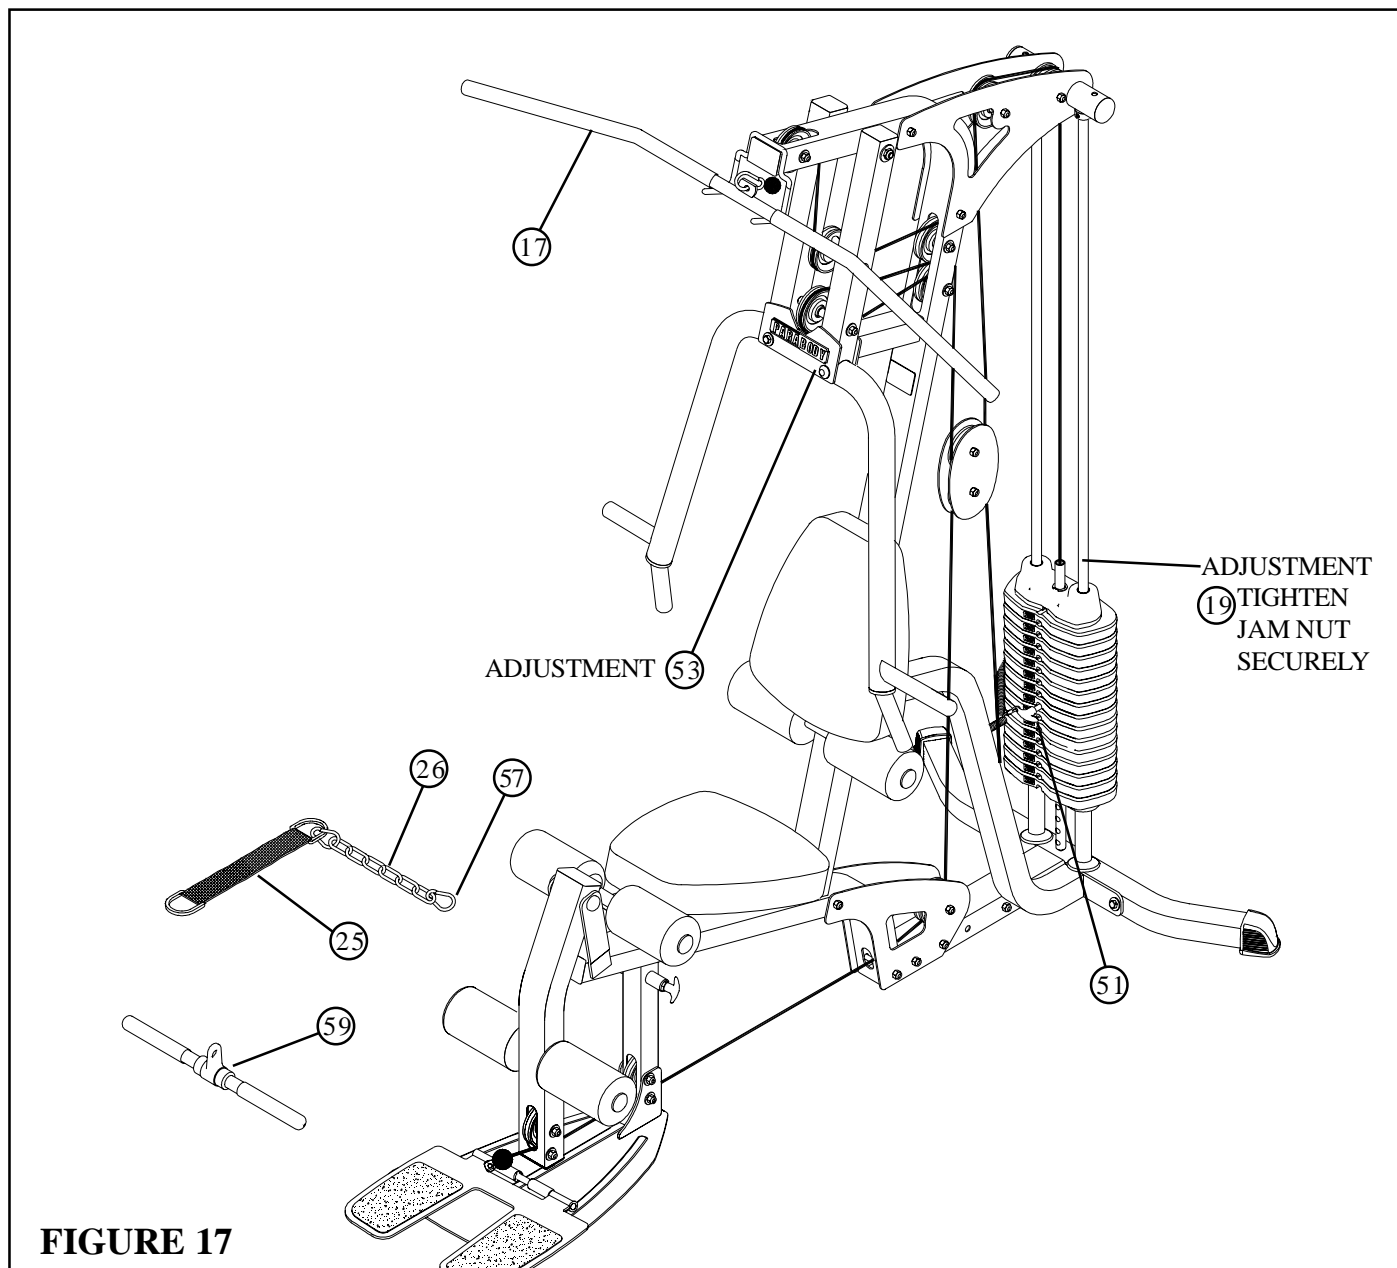

FIGURE 17
- If upon completion of assembly, the HEAD PLATE (19) does not sit on top of the first WEIGHT PLATE (22), push the HEAD PLATE (19) down, insert the WEIGHT SELECTOR PIN (51) and perform several repetitions at the press station. This will relax the cable system and prevent the HEAD PLATE (19) from lifting up. See FIGURE 17
- If after completing previous step, the HEAD PLATE (19) still does not sit on top of the first WEIGHT PLATE (22) or if there is excess slack in the cable system, adjust the threaded end of the LAT CABLE (20) and ADJUSTABLE GLIDE (53) accordingly and retighten the jam nuts. See figure 17
- For maximum performance, the HEAD PLATE (19) should just barely sit on the top WEIGHT PLATE (22)
- Attach the LAT BAR (17) to the ball end of LAT CABLE (20) using one SNAP LINK (57) as shown in FIGURE 17.
- Attach the ANKLE STRAP (25) to the 12 LINK CHAIN (26) using two SNAP LINKS (57) as shown in FIGURE 17